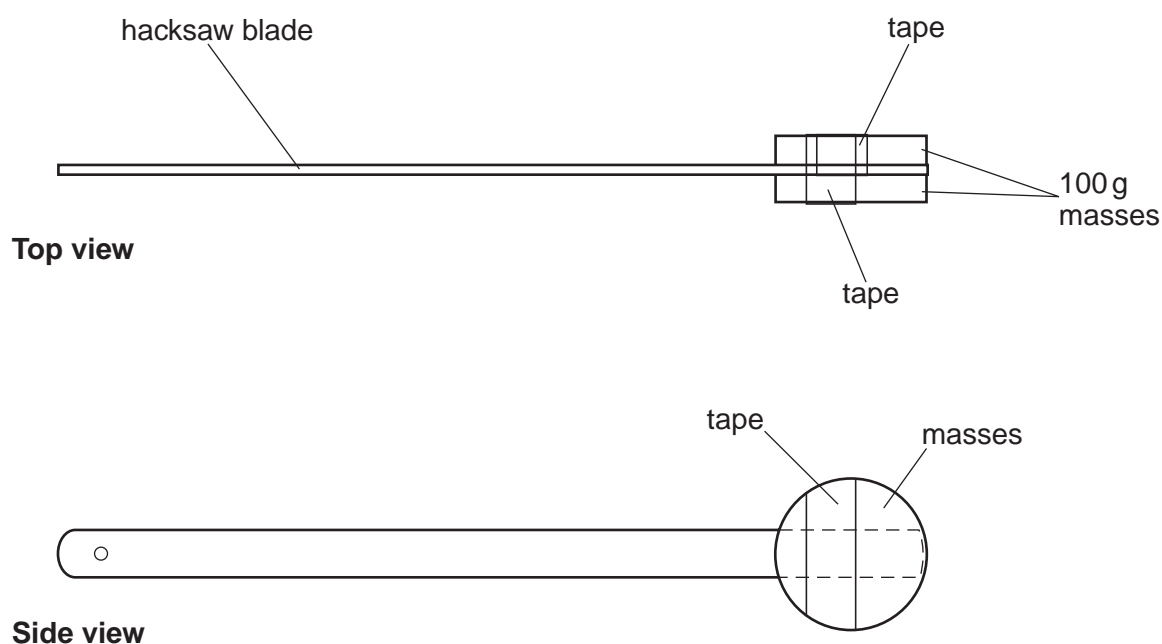

Fig. 2.1
- 1 Tape two 100 g masses to one end of the hacksaw blade as shown in Fig. 2.1.